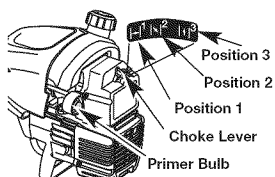

Fig. 4
2. Fully press and release the primer bulb 10 times, slowly. Some amount of fuel should be visible in the primer bulb and fuel lines (Fig. 4). If fuel can not be seen in the bulb, press and release the bulb as many times as it takes before fuel can see.
3. Place the blue choke lever in **Position 1** (Fig. 4).
5. Place the blue choke lever in **Position 2** (Fig. 4).
8. Continue to squeeze the throttle control, move the blue choke lever in **Position 3** (Fig. 4) and continue warming the engine for an additional 60 seconds. During this time the unit may be used.
IF... the engine hesitates, return the blue choke lever to **Position 2** (Fig. 4) and continue warm-up.